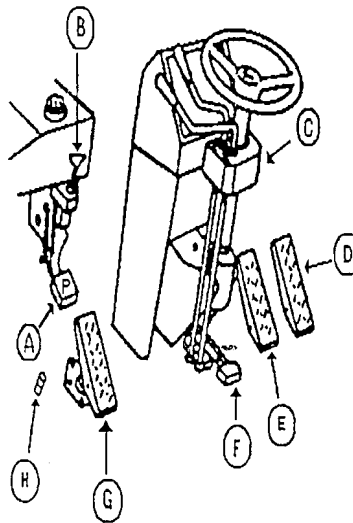

Figure 1-4
d. The controls, figure 1-4, are the pedals and steering column controls.